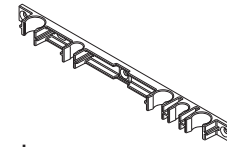
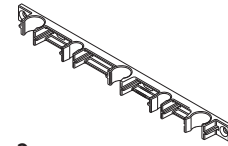

Fig. 1 Upper Pipe Clip Bracket (provided with boiler)
Fig. 2 Lower Pipe Clip Bracket
- A lower pipe clip bracket is also supplied (Fig. 2), to be used in conjunction with the upper (Fig. 1) one provided with the boiler